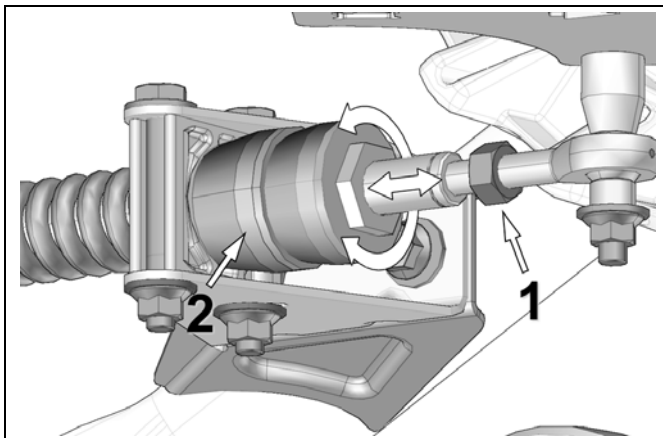

Figure 17
- Loosen jam nut (1). Rotate the stabilizing arm to adjust length of rod end so that no pressure is applied to the rubber cone. (2). Refer to Figure 17.